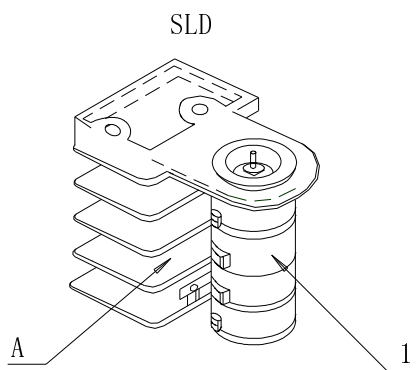

Fig. 8-2-3
This is carried out with 2-fall (or 4-fall). Turn cam (1) by means of corresponding adjusting screw so that it depresses the corresponding contact A. Here the hook stops before reaching the ground (it is forbidden to allow the hook touches the ground, to prevent the rope on the drum from coming off) and at least 3 layers of rope windings should remain on the drum when the hook is at the lowest position. (See Fig. 8-2-3).